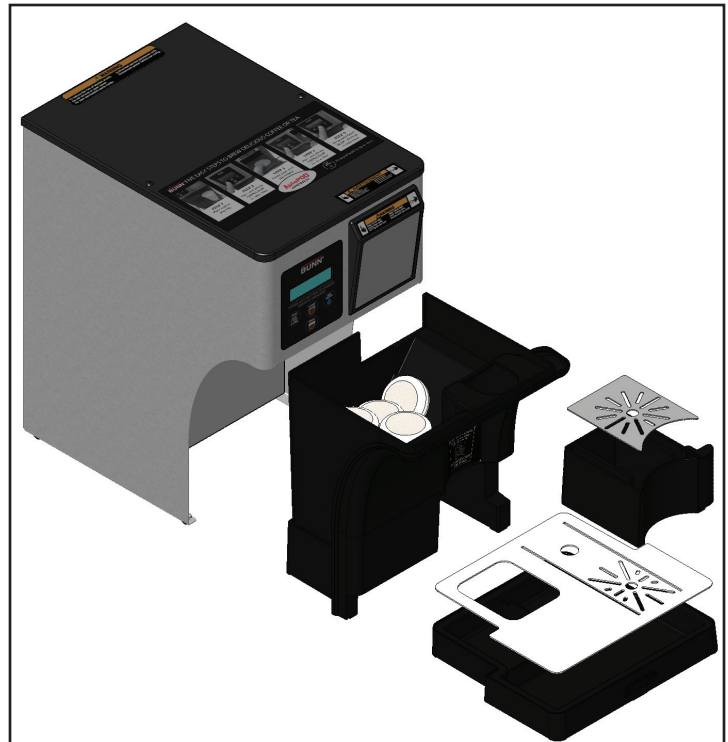

FIG 8-4
2. Press and hold the HOT WATER switch to fill. FIG 8-4 **NOTE:** Maximum of 10 oz.
3. Separate the parts as shown in Fig 8-4 and wash with mild, nonabrasive, liquid detergent.